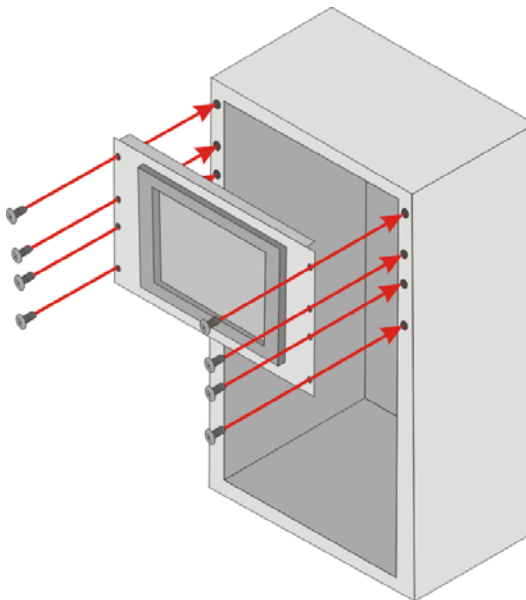

Figure 3-27: Install into a Rack/Cabinet
Step 6: Slide the panel PC with the attached rack/cabinet bracket into a rack or cabinet (Figure 3-27).
Step 7: Once the panel PC with the attached rack/cabinet bracket has been properly inserted into the rack or cabinet, secure the front of the rack/cabinet bracket to the front of the rack or cabinet (**Figure 3-27**).